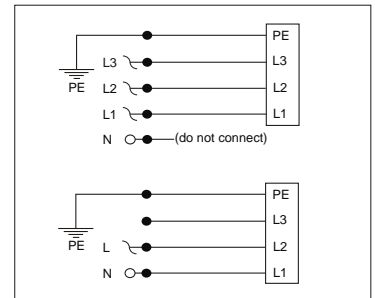

fig 2 - 2
- For a single phase grid, connect Null and Line between L1 and L2, see fig. 2 - 2.